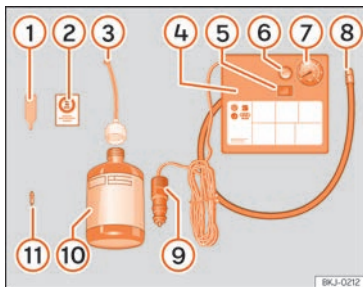

Fig. 224 Standard display: contents of the anti-puncture kit.
The anti-puncture kit is located underneath the floor covering in the luggage compartment. Includes the following components >>> **Fig. 224:**
- Unscrew the tyre valve cap and insert. Use the device >>> **Fig. 224** ① to remove the valve cap. Place it on a clean surface.
- Shake the tyre sealant bottle vigorously >>> **Fig. 224** ⑩.
- Screw the tyre inflation hose >>> **Fig. 224** ③ into the tyre sealant bottle. The bottle's seal will break automatically.
- Remove the filler cap >>> **Fig. 224** ③ and screw the open end of the tube into the tyre valve.
- Replace the howitzer with the device >>> **Fig. 224** ① onto the tyre valve.
- Screw the tyre inflation tube of the compressor >>> **Fig. 224** ⑧ on the tyre valve.
- Check that the air evacuation screw is closed >>> **Fig. 224** ⑥.
- Attach the connector >>> **Fig. 224** ⑨ to the vehicle's 12 volt power outlet >>> page 210.
- Switch on the air compressor with ON/OFF switch >>> **Fig. 224** ⑤.
- Attach the sticker >>> Fig. 224 ② to the instrument panel display, within the driver's field of vision.
Screw in the inflator tube >>> Fig. 224 ⑧ again and check the pressure on the gauge ⑦.